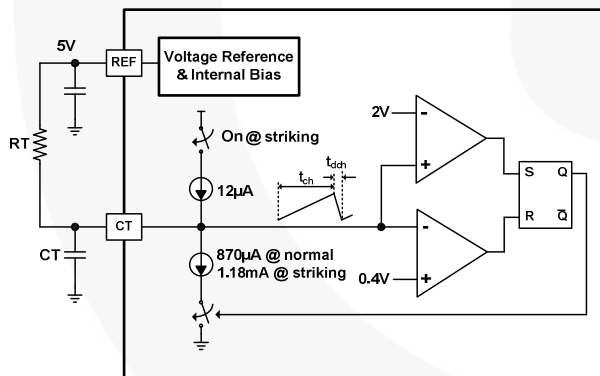

Figure 36. Main Oscillator Circuit
Main Oscillator: In normal mode, the external timing capacitor (CT) is charged by the current flowing from the reference voltage source, which is formed by the timing resistor (RT) and the timing capacitor (CT). The sawtooth waveform charges up to 2V. Once CT voltage reaches 2V, the CT begins discharging down to 0.45V. Next, the CT starts charging again and a new switching cycle begins, as shown in Figure 36. The main frequency is programmed by adjusting the RT and CT value. The main frequency is calculated as: